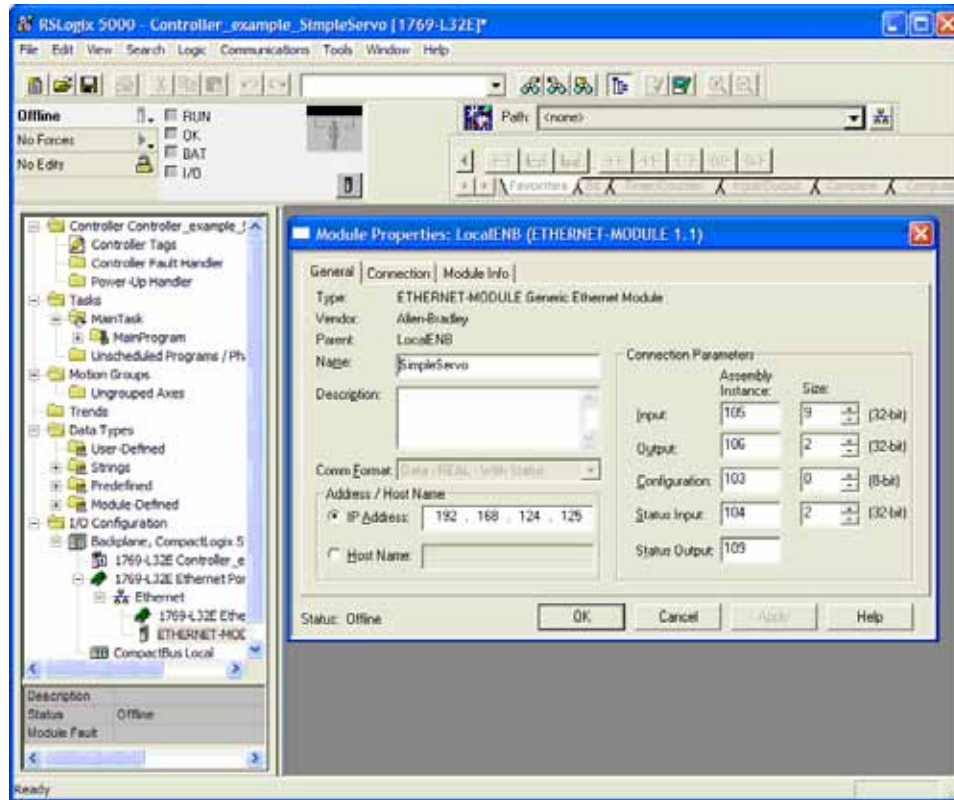

Figure 20: Module Properties Dialog Box
- Select [ETHERNET-MODULE] to configure, and then click [OK]. The Module Properties dialog box will open as shown in Figure 20.